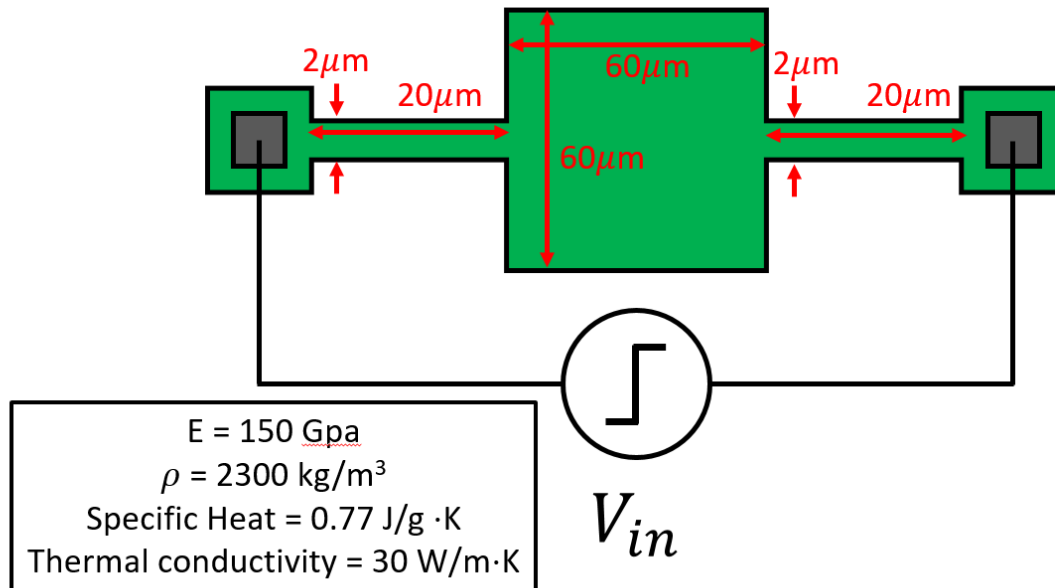

Fig PS2.2-2
- (f) Suppose we use the layout as shown in Figure PS2.2-2 to pattern the polysilicon film to generate a MEMS accelerometer. If we apply a 300 mV voltage across the two anchors, what is the steady state temperature of the proof mass? Assume the temperature of the silicon substrate and the anchors of the structure is constant at 25°C .